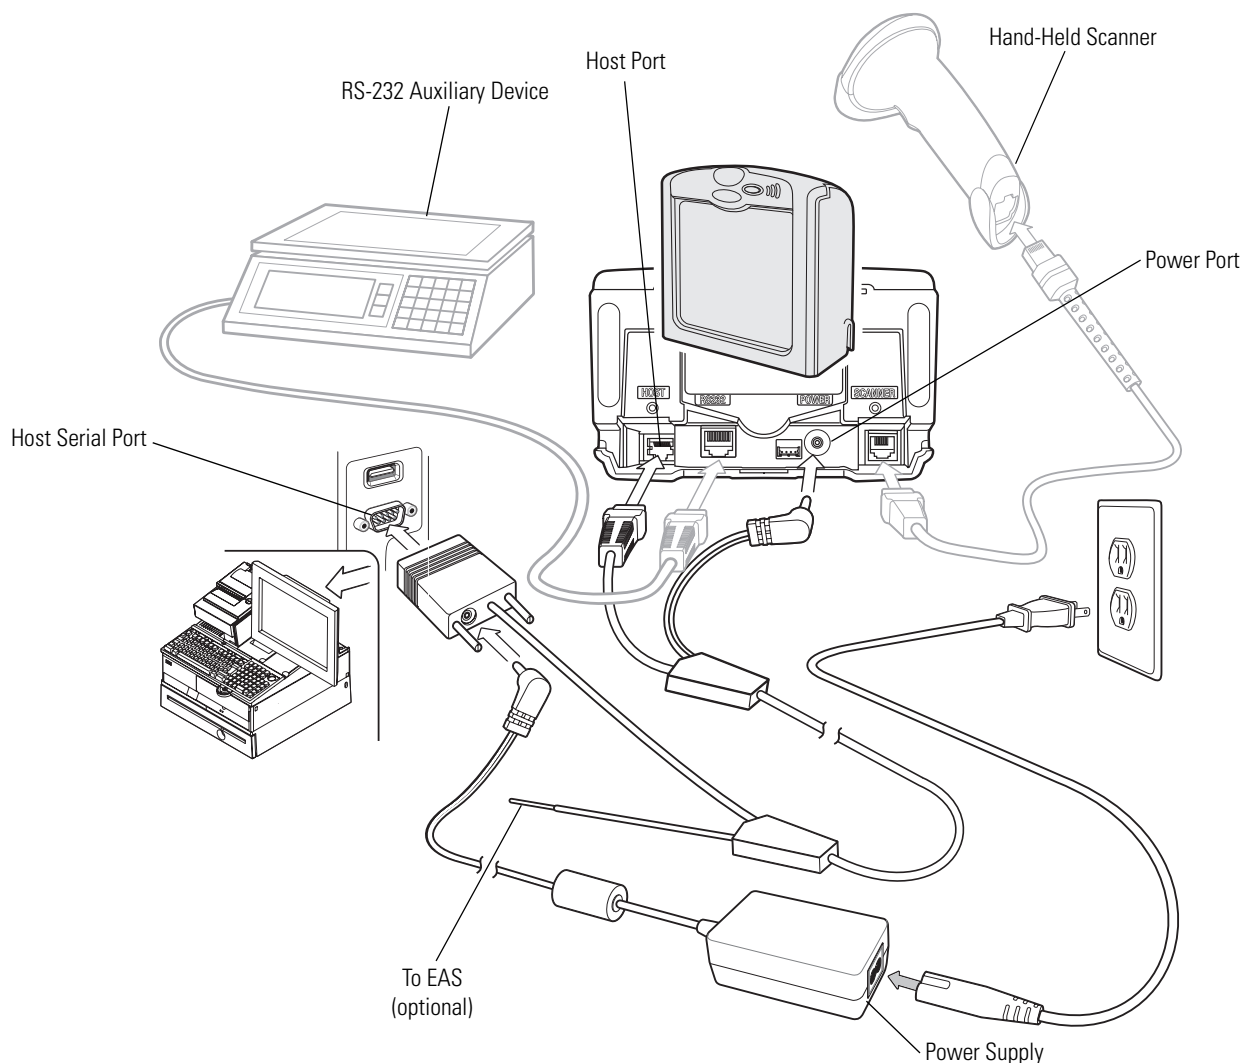

Figure 6-2. RS-232 Connection with Peripherals - Power Supplied Externally
3. Connect the peripherals, if any, to their respective ports (see Figure 6-2).